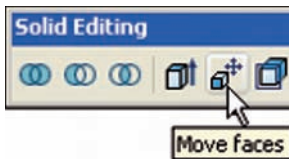

Fig. 19.6 The **Move faces** tool icon
2. Click on the **Move faces** tool in the **Solids Editing** toolbar (Fig. 19.6).